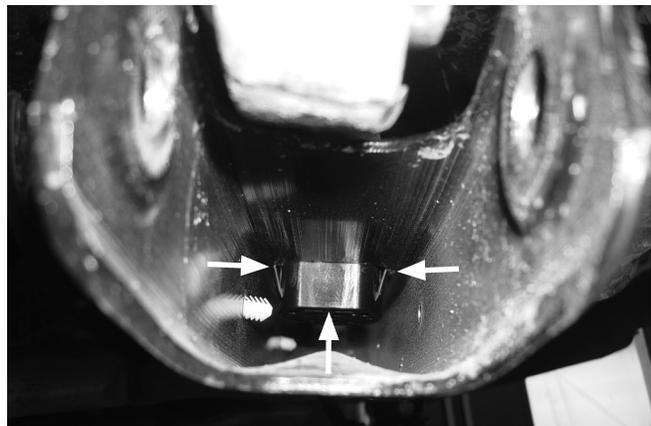

Fig. 8
- Pull down on the spring link and remove the coil spring. Remove the lower spring seat from the spring link, for modifications needed, using a long screwdriver prying in on the outer tabs of the spring seat, inside of the spring link and push up on the spring seat to pop it out (fig. 8).